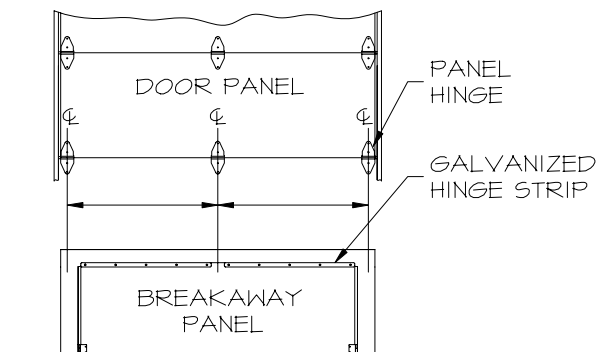

FIG. 1C
- **Compare Panel Hinge locations** on door panel to Galvanized Hinge Strip on Breakaway Panel (Figure 1c).